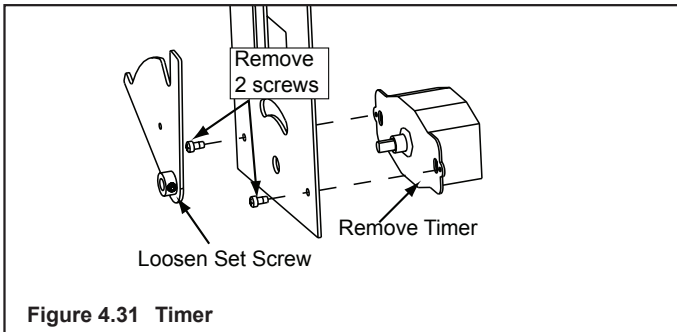

Figure 4.31 Timer
7. Loosen set screw on timer, remove two screws and remove timer. See Figure 4.31.